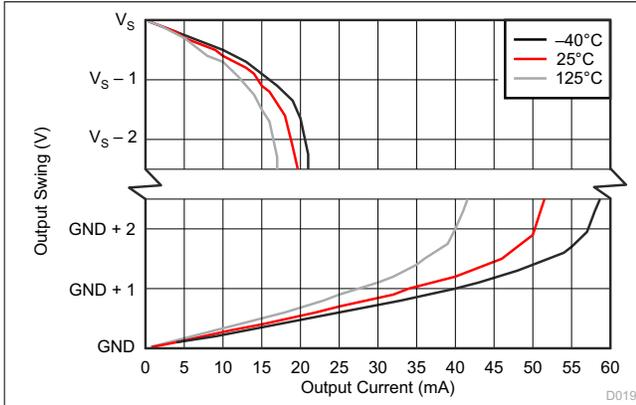

图 7-19. Output Voltage Swing vs. Output Current
(1) RTI = referred-to-input.
(2) Offset voltage is obtained by linear extrapolation to $V_{SENSE} = 0\text{ V}$ with $V_{SENSE} = 10\%$ to 90% of full-scale-range.
(3) See Fig 7-19.
(4) Swing specifications are tested with an overdriven input condition.